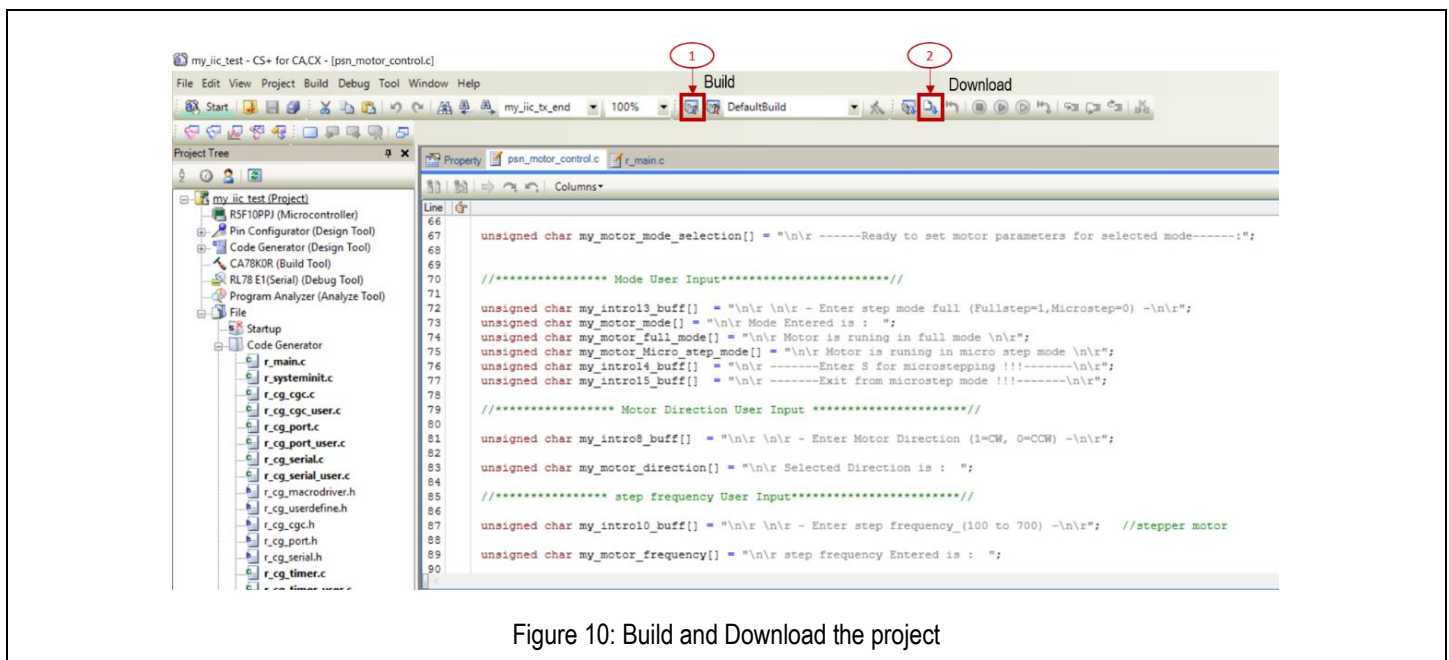

Figure 10: Build and Download the project
2. Once the project opens, click on build icon (marked as 1 in Figure: 10), or press F7 to build the project. Once build is successful, click on download icon (marked as 2 in Figure: 10), or press F6 to download the project.